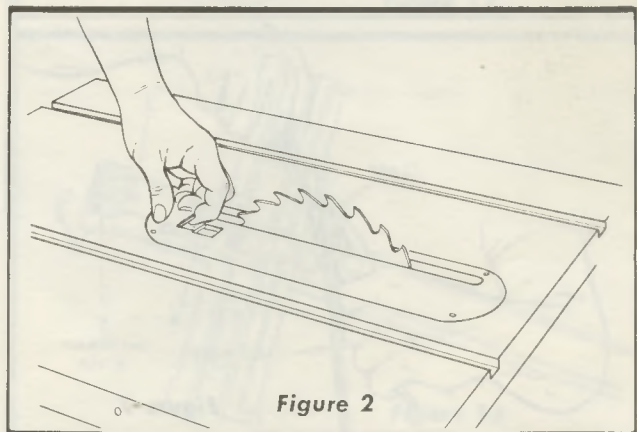

Figure 2
a. Remove the table insert, by inserting a finger into the opening at end of the insert clamp and raising the clamp upward until it releases at the front. (See figure 2.) Then pull forward slightly to release the clip at the rear of the insert and lift the insert carefully off saw blade.